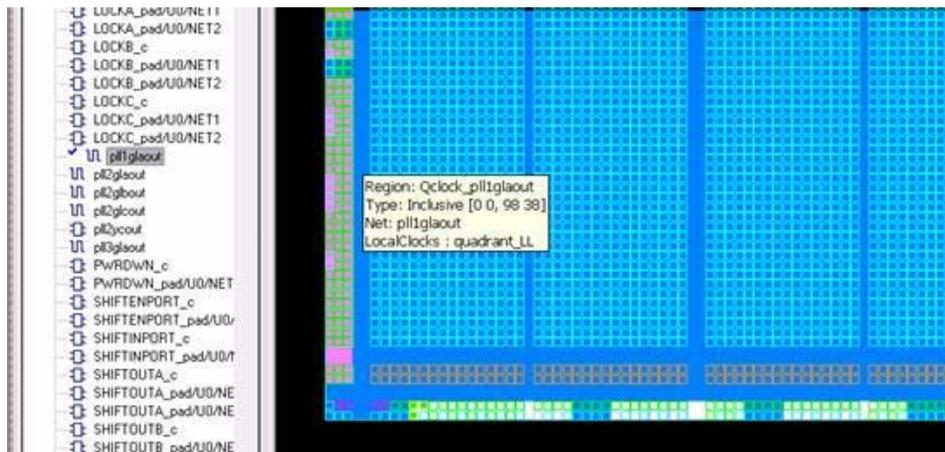

Figure 3-33 • Quadrant Clock Assignment for a Global Net
- Use quadrant global region assignments by finding the clock net associated with the CCC macro under the Nets tab and creating a quadrant global region for the net, as shown in Figure 3-33.